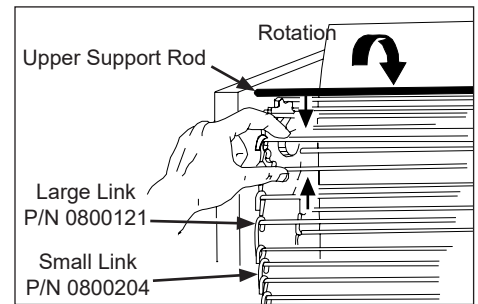

Figure 11. Removing Conveyor Belt Chain
2. Remove the Bun Feeder and Bun Chute (Figure 11). Set the Bun Thickness Compression Knobs to 6 & 6.
9. Disconnect the chain by squeezing any two links together and unhook the links from each other (Figure 11). Needle-nose pliers may be used.
5. Disconnect the Conveyor Belt Chain by squeezing any two links together and unhook both ends of one link (Figure 11). Repeat on other side.
NOTE: The ends of the hooks must point down (Figure 11).